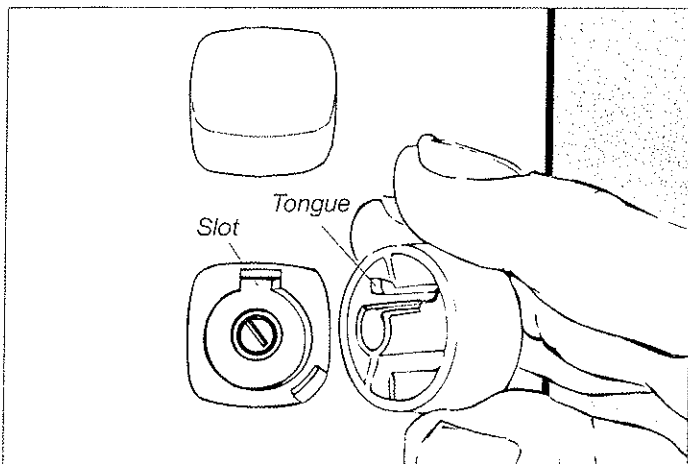

Fig 5. Setting minimum brightness.
- Insert the knob so that the "tongue" on the knob lines up with the slot on the dimmer (see Fig 5).